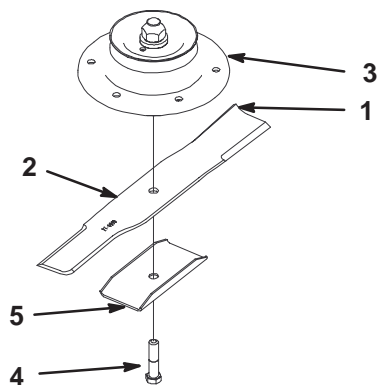
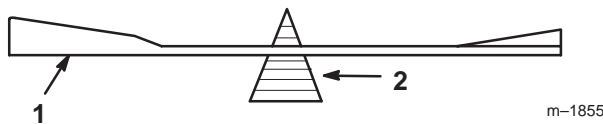

Figure 41
Figure 43
1. Hold the blade end using a rag or thickly-padded glove. Remove the blade bolt, blade stiffener and blade from the spindle shaft (Fig. 41).
2. Check the balance of the blade by putting it on a blade balancer (Fig. 43). If the blade stays in a horizontal position, the blade is balanced and can be used. If the blade is not balanced, file some metal off the end of the sail area only (Fig. 41). Repeat this procedure until the blade is balanced.
1. Install the blade onto the spindle shaft (Fig. 41).
Important The sail part of the blade must be pointing upward, toward the inside of the mower to ensure proper cutting (Fig. 41).
2. Install the washer, lock washer and blade bolt (Fig. 41). Torque the blade bolt to 85–110 ft-lb (115–140 N•m).